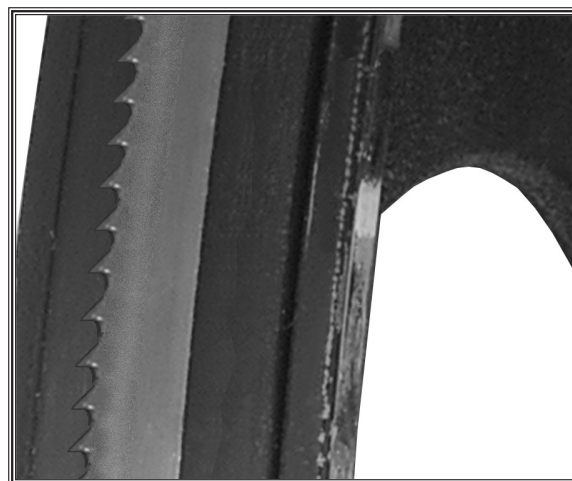

Figure 25. Blade centered on wheel tire.
Perform this adjustment if the blade tracking does not match the tracking shown **Figure 25**. In this procedure you will tilt the upper wheel in or out slightly so the blade tracks slightly to the front of the rubber tire center line.
7. Repeat **Steps 4 & 5** until the blade tracks slightly to the front of the rubber tire center line as shown in **Figure 25**.